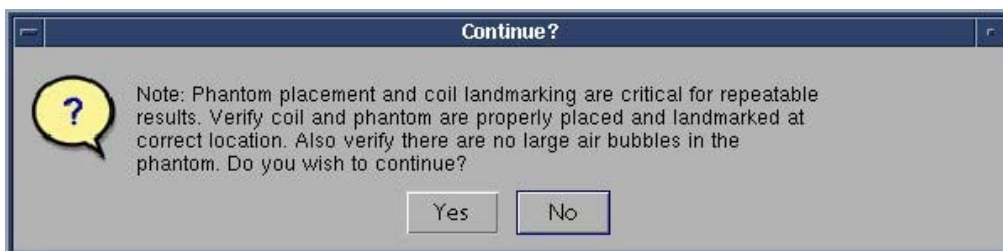

Figure 38
8. Upon start-up, a Note stating, "Phantom placement and coil landmarking are critical for repeatable results" will appear. If the landmark has been set correctly and there are no air bubbles in the phantom, click **[Yes]** to continue. (Figure 38)